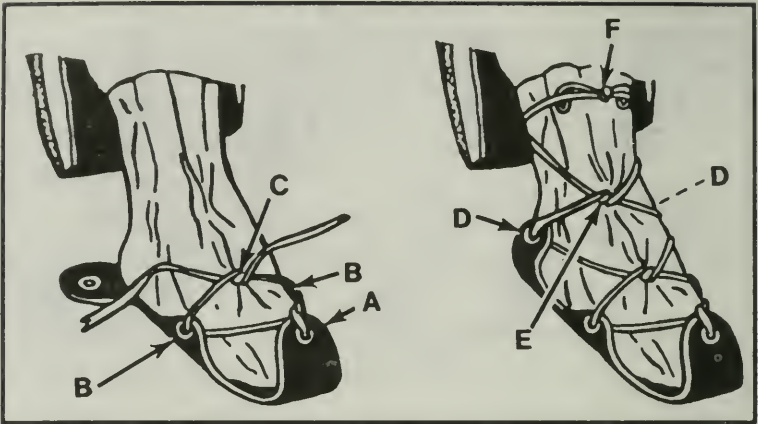

Figure 273. Lacing the new model overboots.
(2) The newer model, Figure 273, has two rear eyelets. To don the cover, put it on either foot, and center your foot on the sole. Tuck the excess front material under the front of your foot, and follow these lacing steps.